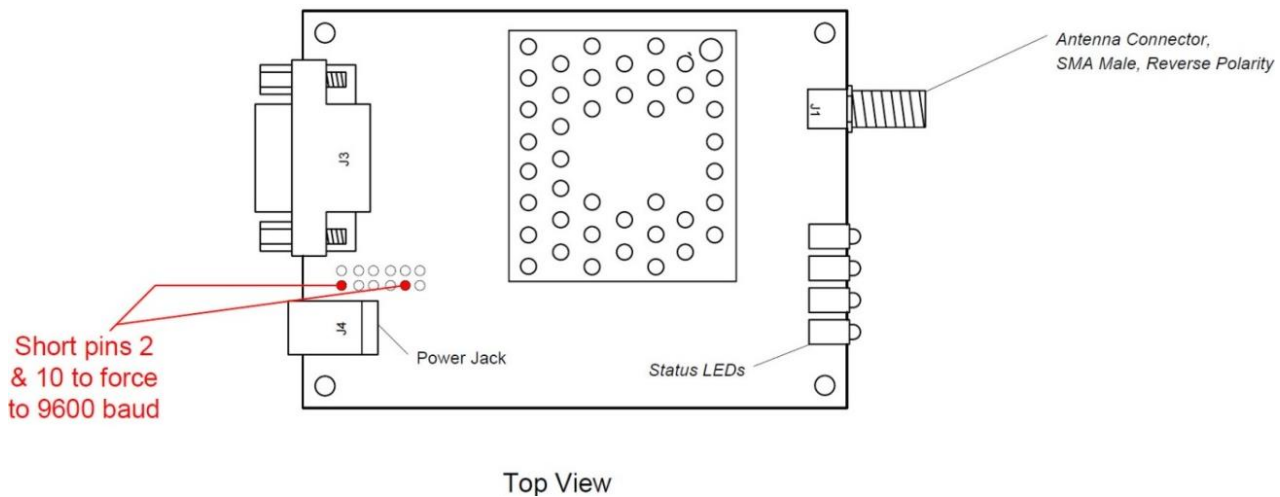

Figure 6: CL4490 with jumper pins highlighted
3. Bridge pins 2 and 10 (a wire or tweezers work on this low voltage line) as shown in Figure 6.